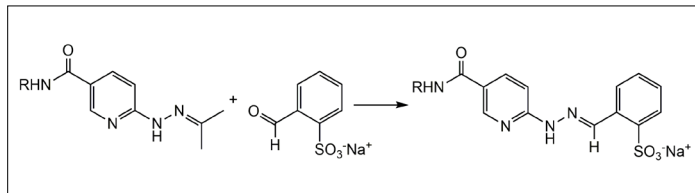

Figure 2: Colorimetric reaction used to quantify the number of HyNic groups on a biomolecule.
- The molar substitution ratio (MSR) can be determined using a colorimetric reaction outlined in Figure 2. Addition of 2-sulfobenzaldehyde to a HyNic-modified biomolecule yields a bis-aryl hydrazone that absorbs at 350 nm. Refer to the HyNic-Protein MSR Calculator as well as the protocol that is appropriate for your lab equipment: HyNic Protein MSR Instructions.